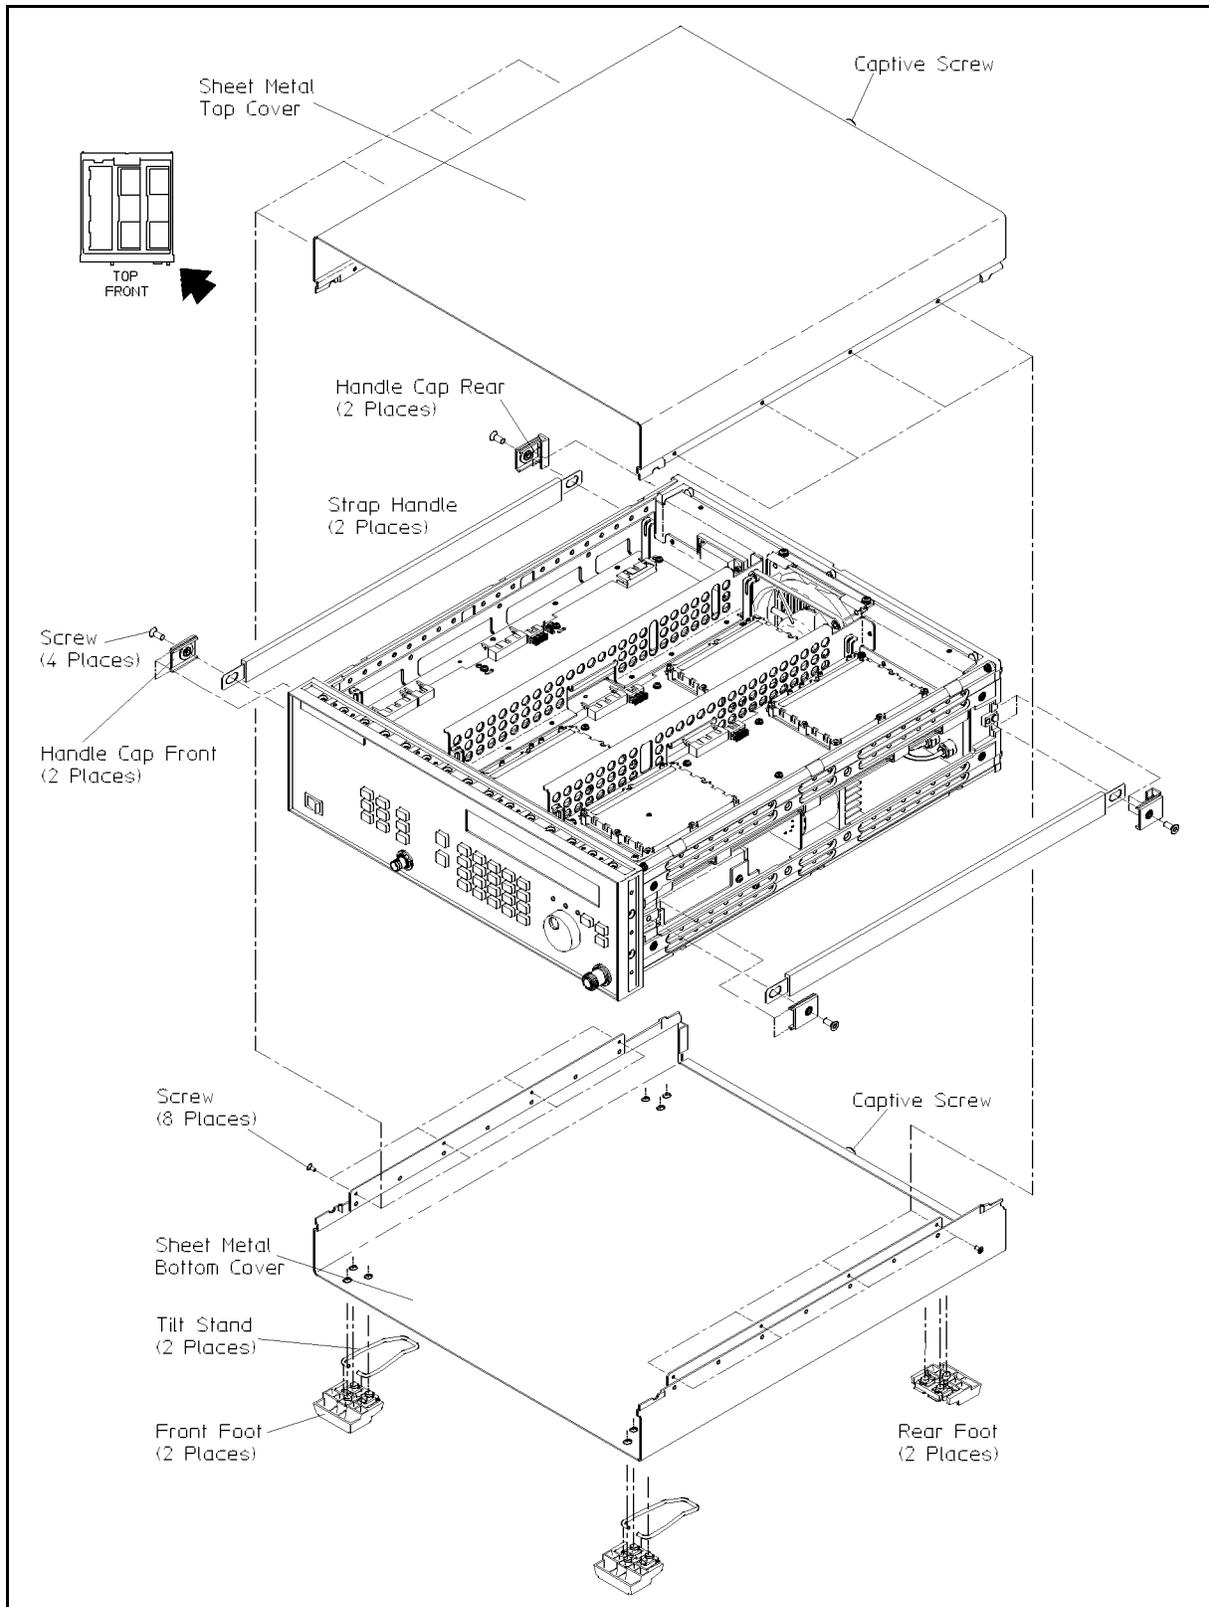

Figure 5-5. Top or Bottom Cover Removal
2. Using a size 25 TORX® screwdriver, remove the side straps by removing the four screws on the side panels (two on each side). See Figure 5-5.
3. Using a size 8 TORX® screwdriver, remove the eight screws from the sides of the instrument (four on each side). See Figure 5-5.
4. Using a size 10 TORX® screwdriver, unscrew the screw located at the rear of the instrument. See Figure 5-5.
3. Using a size 25 TORX® screwdriver, remove the side straps by removing the four screws on the side panels (two on each side). See Figure 5-5.
4. Using a size 8 TORX® screwdriver, remove the eight screws from the sides of the instrument (four on each side). See Figure 5-5.
5. Using a size 10 TORX® screwdriver, unscrew the screw located at the rear of the instrument. See Figure 5-5.